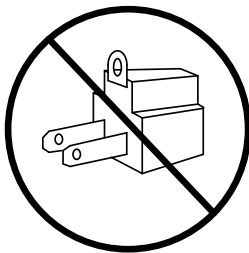

Figure 4
- Do not use an adapter. See Figure 4.